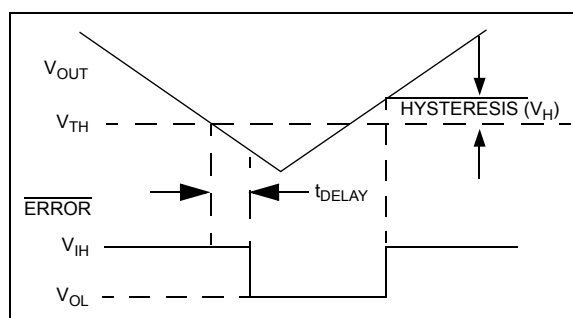

FIGURE 4-2:  $\overline{\text{ERROR}}$  Output Operation.
| ERROR Threshold Voltage  | $V_{TH}$    | —   | $0.95 \times V_R$ | —   | V               | See <a href="#">Figure 4-2</a>               |
$\overline{\text{ERROR}}$  is driven low whenever  $V_{OUT}$  falls out of regulation by more than -5% (typical). This condition may be caused by low input voltage, output current limiting or thermal limiting. The  $\overline{\text{ERROR}}$  threshold is 5% below rated  $V_{OUT}$ , regardless of the programmed output voltage value (e.g.  $\overline{\text{ERROR}} = V_{OL}$  at 4.75V (typ.) for a 5.0V regulator and 2.85V (typ.) for a 3.0V regulator).  $\overline{\text{ERROR}}$  output operation is shown in Figure 4-2.
- Changes to Figure 4-2.